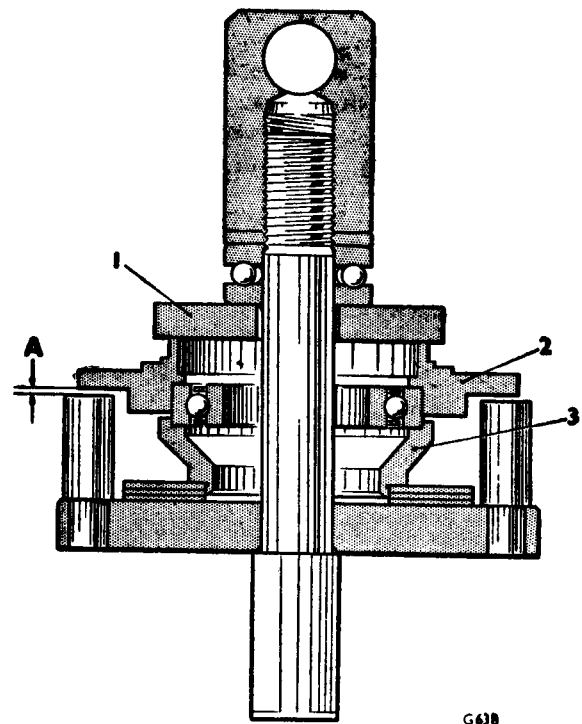

FIG. J11 BELLEVILLE WASHER SETTING
25. Place the housing, distance piece and belleville washers in the checking jig (RH 7861) and tighten the jig end pieces until the belleville washers are flat (*see Fig. J11*).